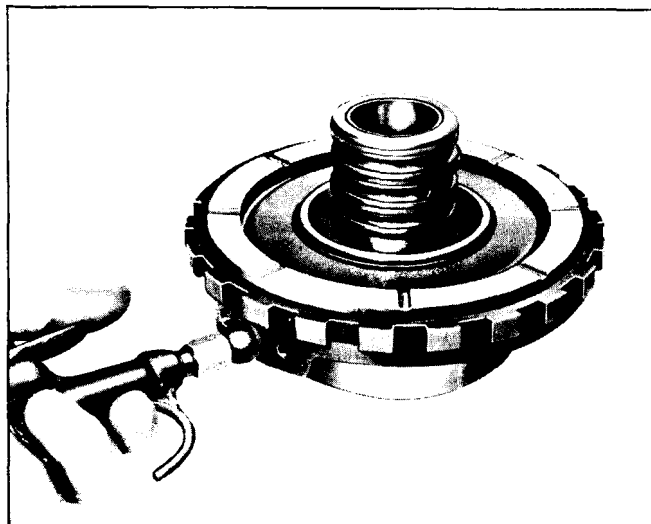

Fig. 7E-144 Air Checking Intermediate Clutch Piston
the center support if the teflon ring was not removed. If the teflon ring was removed, install four (4) hook-type cast iron oil seal rings (Fig. 7E-143).
7. Air check operation of intermediate clutch piston (Fig. 7E-144).